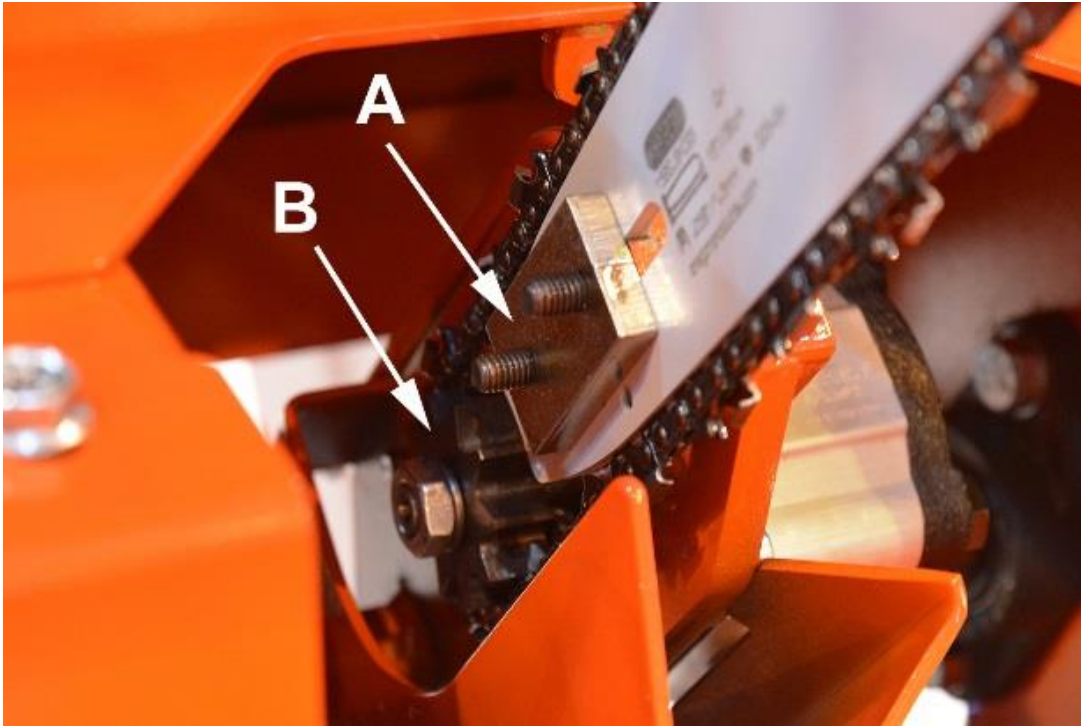

Figure 27.
2. Remove the saw bar bolts (2 pcs) and remove fastening plate A (Figure 27).
4. Place the new bar against gear wheel B (Figure 27), twist it into the groove and loosely attach the saw bar bolts and fastening plate A.